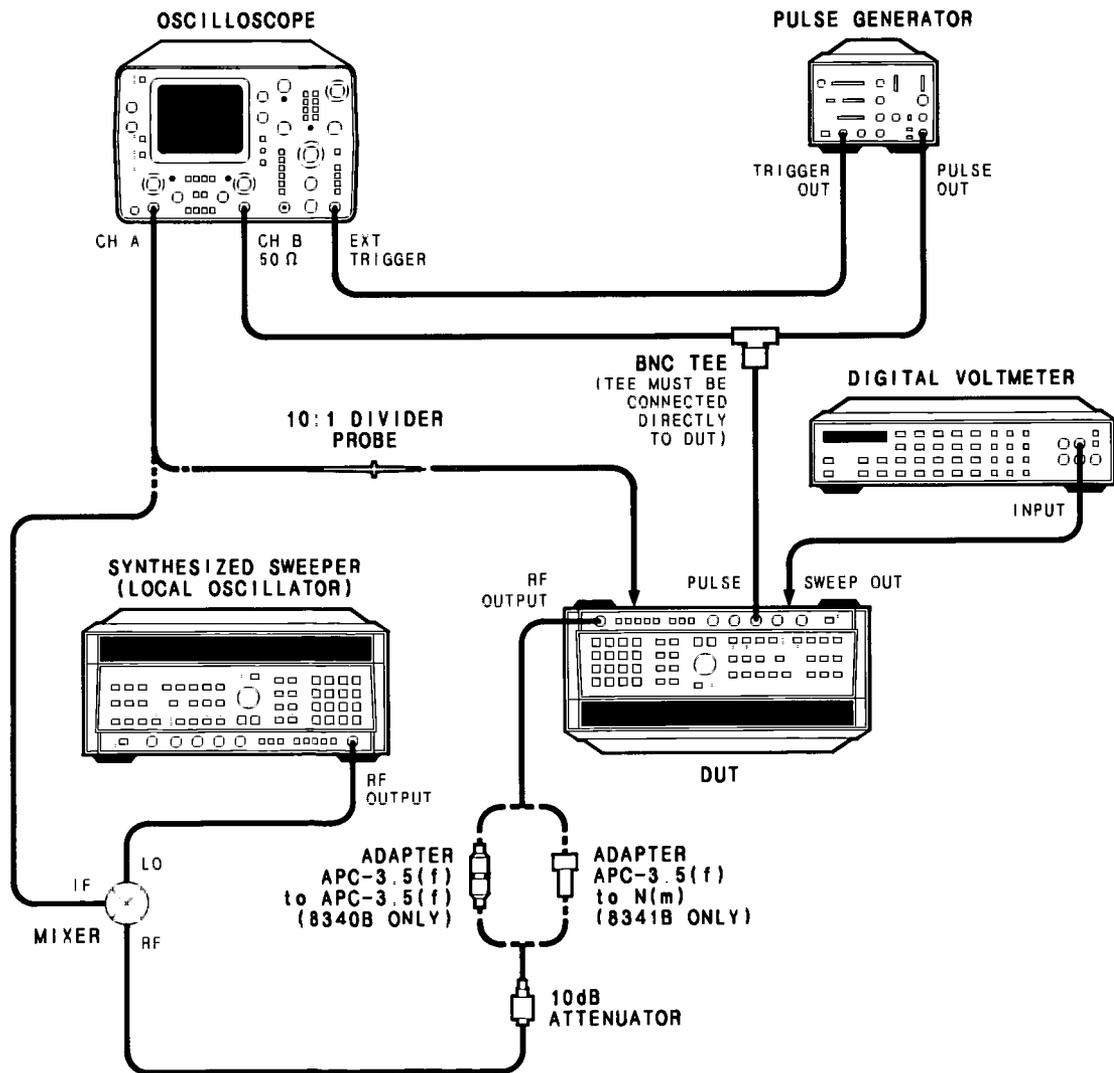

Figure 5-64. Pulse Adjustment Setup
- 1 Connect equipment as shown in Figure 5-64. Allow at least 30 minutes warmup.